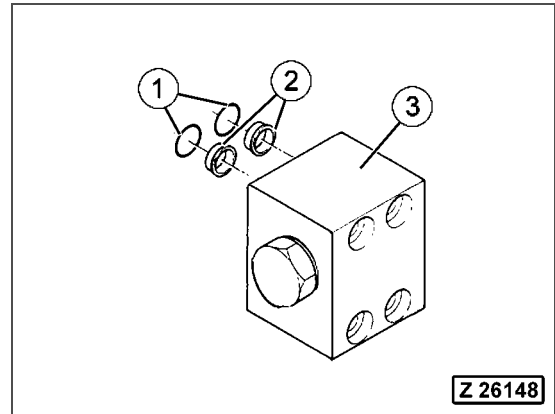

Fig. 3-120
1. Fit new O-rings (Fig. 3-120, Pos. 1) and support rings (Fig. 3-120, Pos. 2) to the valve body (Fig. 3-120, Pos. 4).